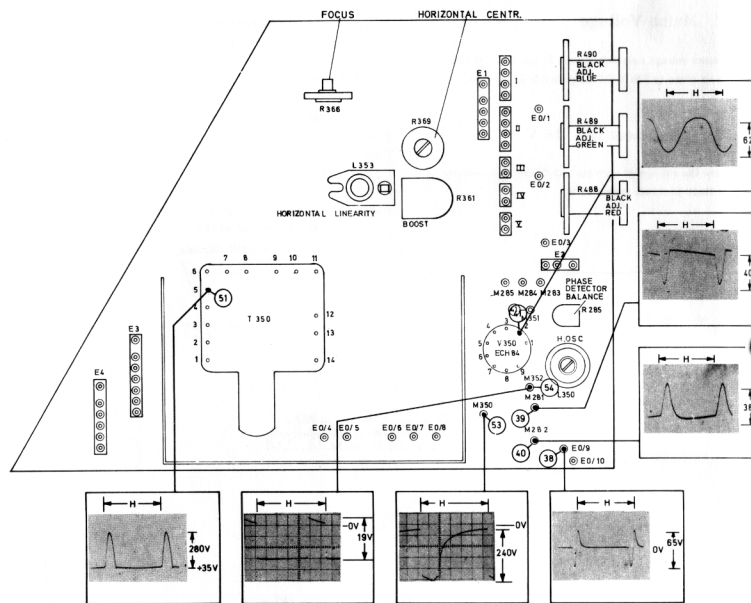

Fig. 17. Line output board (E), alignment- and test points with oscillogrammes.
- b) Adjust static convergence with the convergence magnets on the deflection unit (fig. 17), until the colour lines in the grid pattern coincide. The blue gun can be switched off by pulling out the service breaker III.
- b) All controls for the dynamic convergence adjustment are located on board K which can be swung up for front access. The adjustment should be performed in the sequence indicated on the board. (See fig. 17). If the board has been replaced, or if the controls have otherwise been disturbed, all convergence potmeters should be set to their centre position before adjustment is attempted.